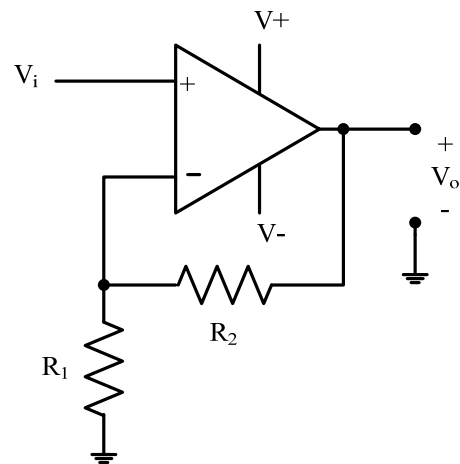

Figure 3: Noninverting amplifier.
2. Figure 3 shows a circuit of a **noninverting amplifier**. The input signal drives the noninverting input of the op amp. The external resistors R_1 and R_2 form the feedback voltage divider. The output of the noninverting amplifier is